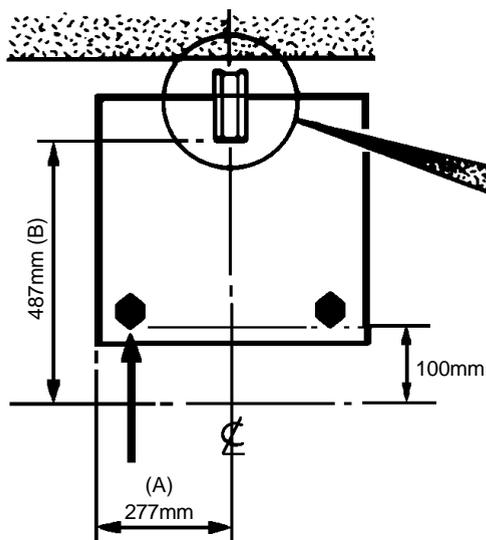
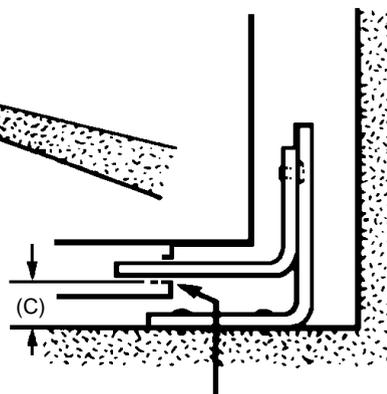

Fig.2a
Fig.2b
2. Mark off 277mm from the left hand side of the appliance as shown in dimension 'A', Fig 2a. This is the centre line of the fixing bracket.
3. Draw a line 100mm from the front edge of the levelling feet (see Fig 2a) and remove appliance from its position. Mark off dimension 'B' (see Fig 2a) back from this line on the centre line of the bracket to locate the front edge of the lower bracket. Fix lower bracket (with two fixing holes) to the floor then measure the height from floor level to engagement edge on back of appliance, dimension 'C' of Fig. 2b.
4. Assemble upper bracket to lower bracket so that underside of bracket is dimension 'C' + 3mm above floor level. (see Fig. 2b).
Reposition appliance and check that top bracket engages into appliance back as shown in Fig. 2b.